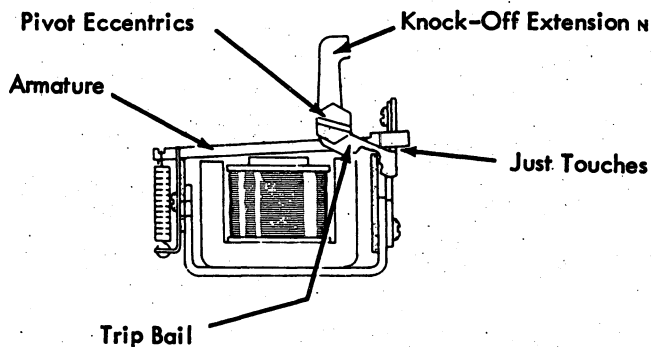

FIGURE 31. Pivot Eccentrics
6. **Pivot Eccentrics (Fig. 31)** - Adjust so that the cycle clutch trip bail is parallel to the armatures. The following procedure may be used.
If necessary, refine the pivot eccentric adjustment to obtain equal latch lever overthrow from the T2 and R5 armatures (Ref. Fig. 31).